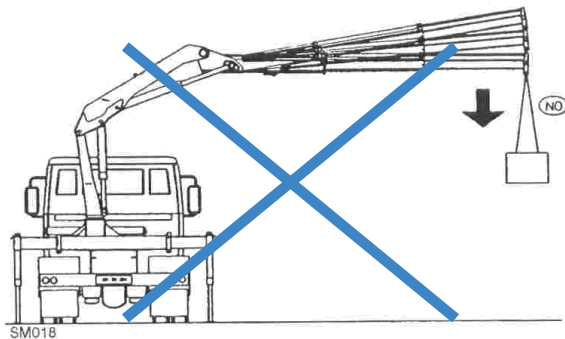

Figure 8.7: Avoid quick or jerky movements at full extension.
- Avoid quick or jerky movements at full extension as they can cause undue stress and wear to the crane (Figure 8.7).